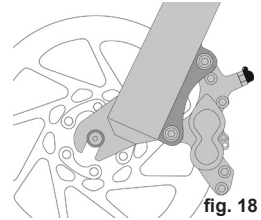

fig. 18
1. If your e-bike has rim brakes, disengage the brake's quick-release mechanism to increase the clearance between the tire and the brake pads. Refer to Page 57, Section 11: "Tech", subsection C: "Brakes", figs. 18 through 22.
1. If you have a multi-speed e-bike with a derailleur gear system, shift the rear derailleur to high gear (the smallest, outermost rear sprocket). If you have an internal gear rear hub, do not attempt to remove the rear wheel. Consult your authorized retailer or the hub manufacturer's instructions for additional information. If you have a single-speed e-bike with rim or disk brake, go to step (4) below.
2. If your e-bike has rim brakes, disengage the brake's quick-release mechanism to increase the clearance between the wheel rim and the brake pads. Refer to **Page 57, Section 11: "Tech", subsection C: "Brakes", figs. 18 through 22, Page 57, Section 11: "Tech", figs. 18 through 22.**
3. Some bicycle brakes, such as disc brakes (fig. 18) and linear-pull brakes (fig. 19), are extremely powerful. Take extra care in becoming familiar with these brakes and exercise particular care when using them.